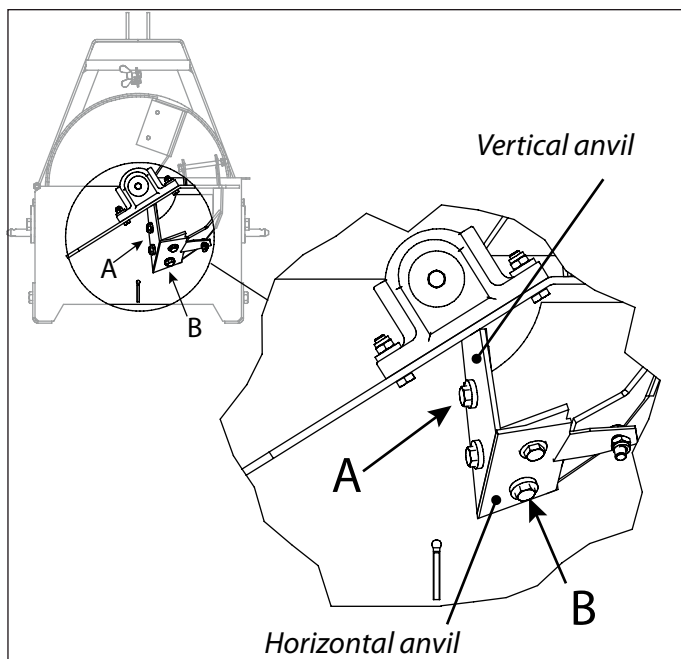

Fig 16. Anvil fastening bolts
The chipper features both a vertical and horizontal anvil. To remove the anvils, open the fastening bolts (A) and (B) (M12). The horizontal anvil fastening bolt (B) is located below the feed opening. Fig 16.